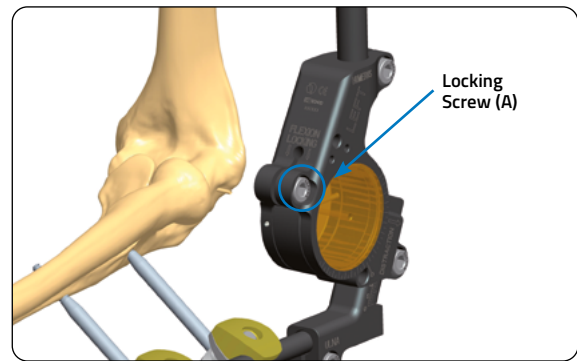

Fig. 1
With locking screw (A) loosened, the Elbow Hinge will allow free flexion-extension (**Fig. 1**).